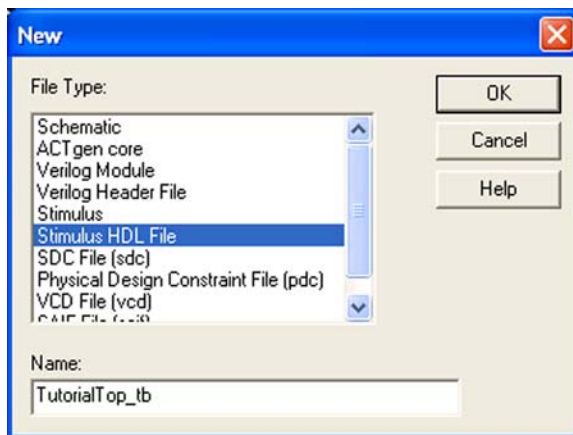

Figure 5-24. New File Dialog Box
1. From the **File** menu, select **File** and then **New**. This opens the New dialog box, shown in Figure 5-24.